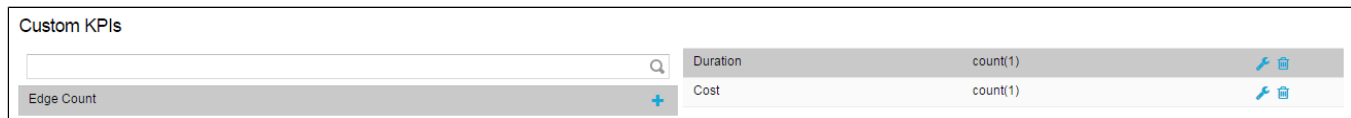

Figure 3.9: Process Explorer - Custom KPIs
The Custom KPI's section shows all available KPIs defined by you. To define a new KPI, simply choose the predefined KPI "Edge Count" shown in the list and click on the "+"-icon. Edge Count will be added to the Custom KPI list on the right side of the Custom KPI's section (as shown in Figure 3.9) and you can start configuring your own KPI based on it by clicking the small screwdriver icon. The configuration of KPIs will be explained in the following section.
- **Edit:** To edit the settings of a custom KPI, click on the screwdriver icon appearing next to it (see Figure 3.9). You will be forwarded to the edit menu which will be explained in the following Section.
- **Delete:** To delete a custom KPI, click on the small rubbish bin icon appearing next to it (see Figure 3.9).